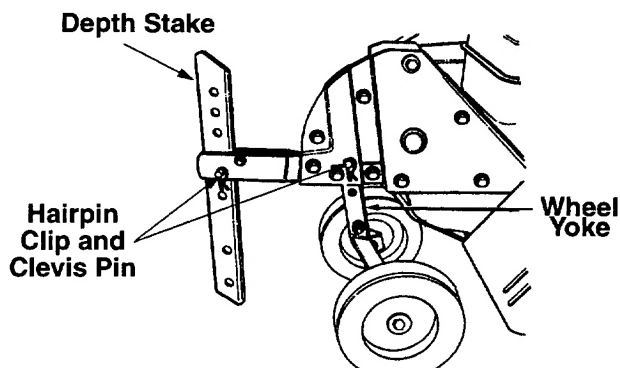

Figure 7.
The tiller is shipped with the wheels adjusted such that the unit sits level. While tilling, as the tines enter the ground and the front of the tiller lowers, the wheels must be raised to level the unit, which is essential for proper engine operation. This adjustment is made by removing the clevis pin and hairpin clip from wheel yoke, raising the wheels to the desired height, and replacing the clevis pin and hairpin clip. (See Figure 7)
2. **Depth Stake Adjustment:** The depth stake acts as a brake for the tiller and controls the depth and speed at which the machine will operate. Remove the clevis pin and hairpin clip to raise or lower depth stake. (See Figure 7)